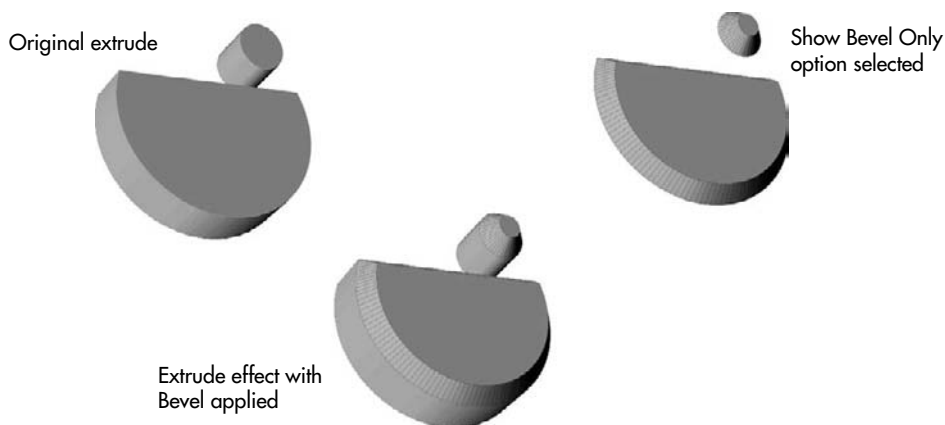

FIGURE 25-8 The shape of a bevel is determined by Bevel Depth and Bevel Angle.
- **Setting bevel shapes** The Bevel Depth and Bevel Angle options can be defined by entering values in the corresponding fields on the Bevel pop-up on the Property Bar; you can also click-drag in the proxy window to interactively define the angle and depth. Bevel Depth can be set between 0.001 inch and 1,980 inches. Bevel Angle may be set to a maximum of 89°. Shallow angles of less than 30° often provide the best visual results. At significant depths, you might get self-intersections in the bevel because control objects that have sharp curves along the path segments are difficult for the Bevel effect to reconcile mathematically. Figure 25-8 shows the results of applying a Bevel effect with and without an Extrude effect involved.